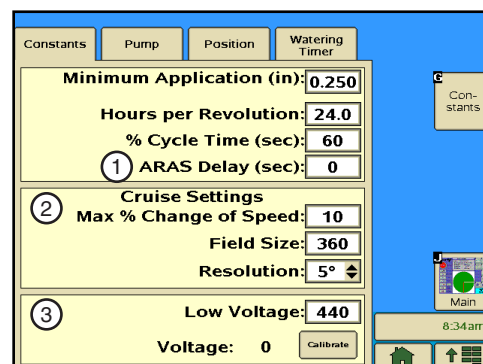

Figure 23-1 1. ARAS Delay Field
1. Select the **ARAS Delay** field. Refer to Figure 23-1.
1. Select the **Max % Change Of Speed** field. Refer to Figure 23-1.
1. Select the **Field Size** field. Refer to Figure 23-1.
1. Select the **Resolution** field. Refer to Figure 23-1.